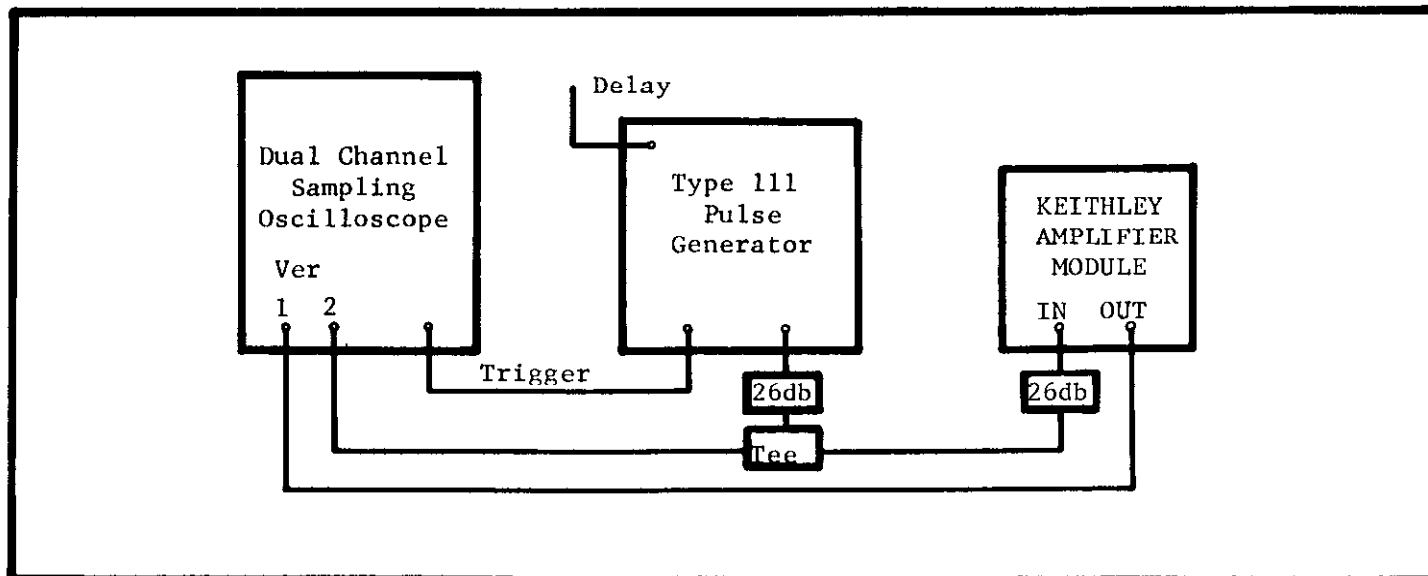

FIGURE 8. Block Diagram for Model 109 High-Frequency Calibration. Refer to Table 3 for equipment.
c. Add a tee (included in the Model 1042 Kit) and 20-db attenuator; connect the pulse generator to the Amplifier INPUT. See Figure 8. Connect the Amplifier OUTPUT to the oscilloscope's other vertical input. Note the oscilloscope has 50-ohm input impedance, which terminates the Amplifier output.